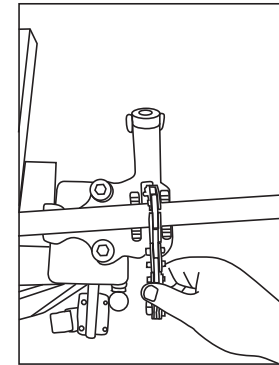
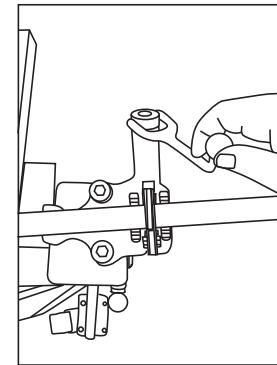

Fig 3
Fig 4
2. Wrap chain over the top of the conduit and secure the side chain teeth into the grooves under bottom of the vise (Fig. 3). Rotate handle clockwise to lock in the conduit. Handle should be tight to ensure the best results for both cutting and threading applications (Fig. 4).